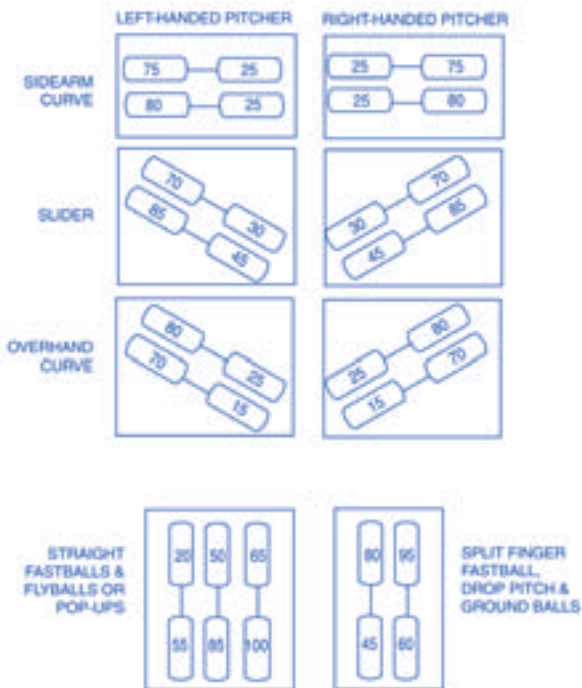

Figure 6.
2. To throw straight fastballs, you must set speed dials 35 digits apart, as shown in figure 6. For faster straight balls, turn both speed dials up the same amount. For slower straight balls, turn both down the same amount. Always keep the dials 35 digits apart.
Use the following diagrams shown below in figure 6 as guides for using the JUGS Curveball pitching machine. Each diagram shows the approximate tilt of the wheels. Numbers represent the speed dial settings.